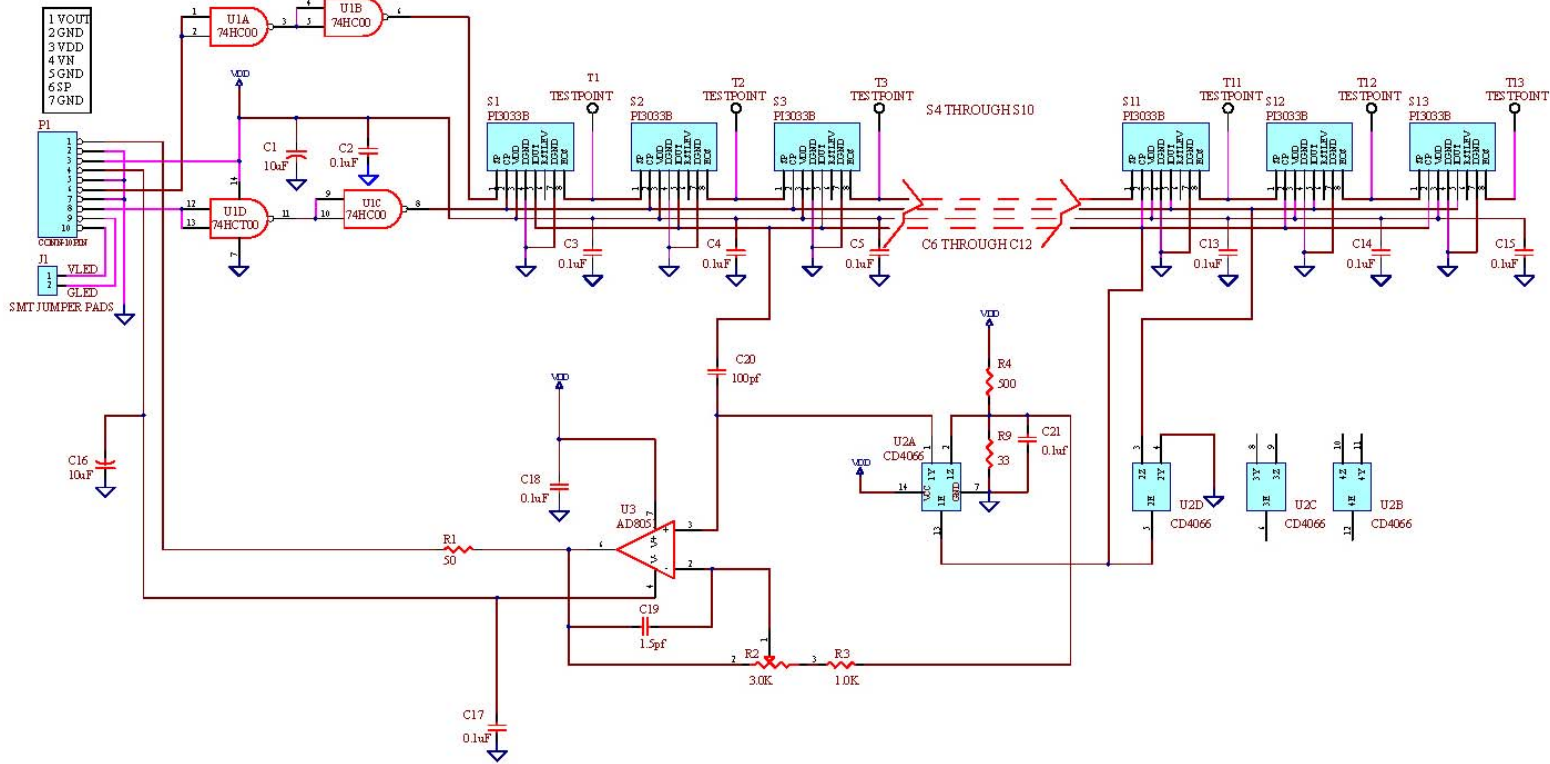

Figure 9. Typical A6 CIS Module Circuit
Note: The value of 100pf is selected because the typical PCB layout of an A6 length module has a video line capacitance, including the stray, in the order of 100pf. The A6 length CIS module uses 13 sensor chips. See Figure 9. Typical A6 CIS Module Circuit using the PI3033B sensors.
- (2) Prohibit crossing time is to insure that no two start pulses are locked into the shift register for any single scan time. Since the start pulse is entered into the shift register during its active high level when the CP clock edges falls, the active high of the start pulse is permitted only during one falling, CP, clock edges for any given scan. Otherwise, multiple start pulses will load into the shift register.
- (3) Pixel delay times and settling time depend on the output amplifier, which is employed. These values,  $t_{dl}$  and  $t_{s/h}$ , are measured with the amplifier see in Figure 9. Typical A6 CIS Module Circuit using the PI3033B sensors. Note, the impulse signal current out of the device has pulse width  $\sim 30$  ns. Hence, the faster the amplifier with a faster settling time will yield a signal video pulse with faster rise and settle times.
See Figure 9. Typical A6 CIS Module Circuit using the PI3033B sensors. The circuit is provided as reference to illustrate the interconnection of the PI3033B for a serially cascaded line of image sensors. It is a typical A6 size CIS module produced by PIC. It provides the first time user with additional insight for designing a CIS module and supplements the circuit descriptions given in the section, Signal Output Conversion, page 5.